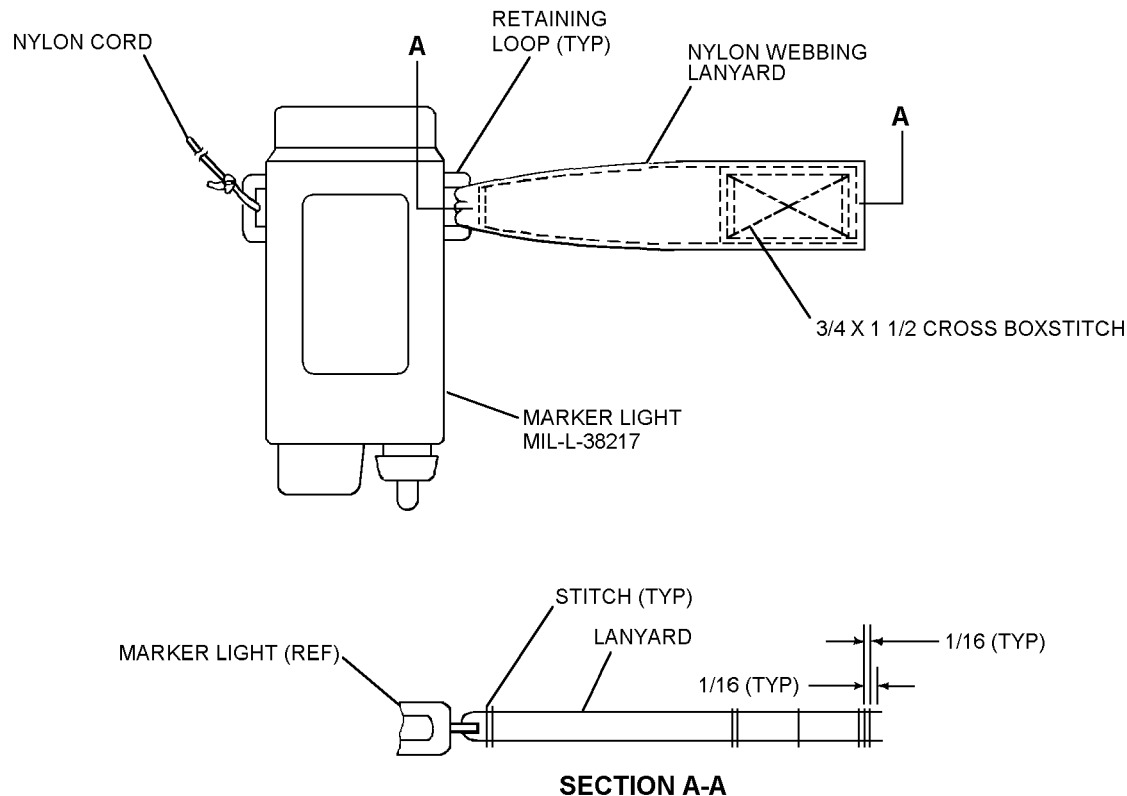

Figure 6-11. SDU-5/E Distress Signal Light Lanyard
- 6. (SDU-5/E only). Cut and sear 12-inch length of 1-inch webbing and place through retaining loop on distress signal light and draw ends even. Stitch a single row 1/8 inch from edge around all edges and as close as possible to loop. Double stitch across webbing next to loop. Cross boxstitch open end. See figure 6-11.